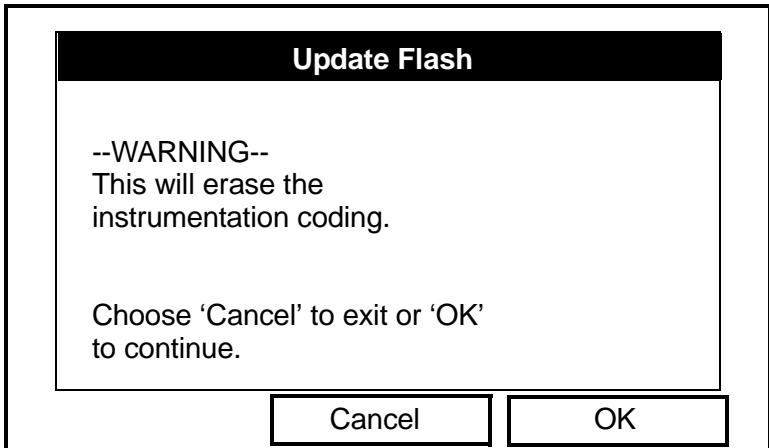

Figure 8-29: The Flash Update Option
To begin the loading procedure, scroll down to the Flash Update entry in the Service Menu and press [ENTER]. The screen appears similar to Figure 8-29 below.
1. As shown in Figure 8-29 on the previous page, the Flash Update option erases all instrument coding.
- Press [F3] (OK) to confirm that you wish to erase the program.